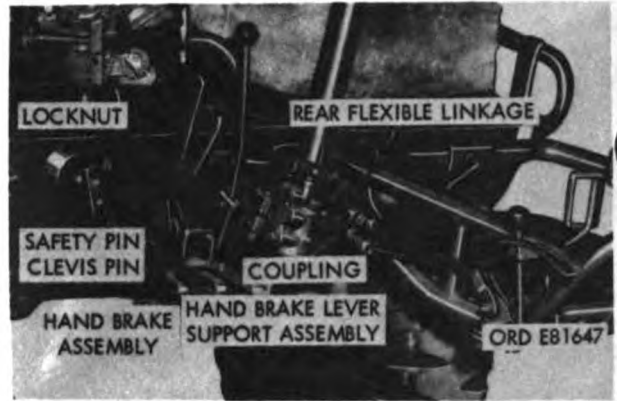

Figure 2-82. Disconnect-points for brake control flexible linkage.
- (1) **Removal.** Apply handbrake. Disconnect rear flexible linkage from quick-disconnect coupling (fig. 2-82). Remove cotter pin and clevis pin connecting clevis on rear end of rear flexible linkage to brake lever (fig. 2-75), and pull linkage out of guide in bed support front crossmember.
- (2) **Installation.** Push front end of flexible linkage through guide in bed support front crossmember, from the rear. Install ball on front end of rear linkage in coupling (fig. 2-82) on rear end of front flexible linkage. Pull clevis on rear end of linkage back to remove slack, position clevis in lower hole in brake lever, and install clevis pin and cotter pin securing clevis to lever. Release handbrake and check adjustment of linkage as directed in a(8) above.
and clevis pin (fig. 2-82) and disconnect front end of handbrake flexible linkage from handbrake lever. Remove cotter pin, washer and clevis pin (fig. 2-75), and disconnect rear end of flexible linkage from handbrake lever adapter. Remove plain nut, lockwasher, machine screw, and clamp securing handbrake flexible linkage to bracket (fig. 2-75) at right side of platform. Remove plain nut, lockwasher, machine screw, and clamp securing front end of linkage to conduit support bracket (fig. 2-42). Pull linkage through the rear of crossmember and remove from vehicle. Loosen locknut and remove clevis and plain nut from front end of flexible linkage.
**b. Installation.** Install locknut and clevis on threaded end of flexible linkage. Insert through rear side of crossmember. Attach front end of linkage conduit to conduit support bracket (fig. 2-42) using clamp, 5/16 × 1 machine screw, lockwasher, and plain nut. Attach rear end of linkage conduit to bracket using clamp, 5/16 × 1 machine screw, lockwasher, and plain nut. Connect rear end of flexible linkage to handbrake lever adapter with clevis pin, washer, and cotter pin. Connect brake flexible linkage return spring. Loosen locknut securing clevis on front end of linkage (fig. 2-82) and adjust clevis to align with hole in handbrake lever when lever is in extreme rear position and all slack on linkage is removed. Install 5/16 × 27/82 clevis pin and secure with safety pin. Tighten locknut against clevis.
*a. Removal.* Remove return spring (fig. 2-80) and clevis pin connecting clevis on rear end of linkage to upper hole in brake lever. Remove safety pin and clevis pin (fig. 2-82) securing clevis on front end of handbrake flexible linkage to handbrake lever. Remove two hex nuts, lockwashers and hex-head bolts securing clamps on ends of conduit to conduit support bracket (fig. 2-42) on bed support front crossmember and bracket (fig. 2-80) attached to front axle. Pull linkage to rear of crossmember and remove from vehicle.
*b. Installation.* Push front end of handbrake linkage through hole in bed support front crossmember. Position clevis on rear end of linkage at upper hole in brake lever and install clevis pin (fig. 2-80). Install retracting spring between hole in clevis pin and hole in tube bracket. Secure clamp and rear end of conduit to bracket secured to rear axle with hex-head bolt, lockwasher and hex nut. Secure clamp and front end of conduit to conduit support bracket (fig. 2-42) on front crossmember with hex-head bolt, lockwasher and hex nut. Loosen locknut securing clevis on front end of linkage (fig. 2-82) and adjust clevis to aline with hole in handbrake lever when lever is in extreme-rear position. Install clevis pin securing clevis to lever and secure
*b. Repair.* The handbrake lever (fig. 2-82) assembly is welded and riveted together, the pawl spring being the only part which can be replaced without destroying other parts. To replace pawl spring, unhook ends from body and finger grip, and remove from assembly. Hook a new spring in place with the longer end hooked into finger grip.
*c. Installation.* Push handbrake lever assembly (fig. 2-82) onto shaft in support assembly, with hole in sector alined with threaded hole in support. Secure sector to support with  $8/8 \times 7/8$  hex-head screw and lockwasher. Position clevis on front end of handbrake flexible linkage in alinement with hole in brake lever, and install clevis pin and safety pin. Install return spring (fig. 2-75).